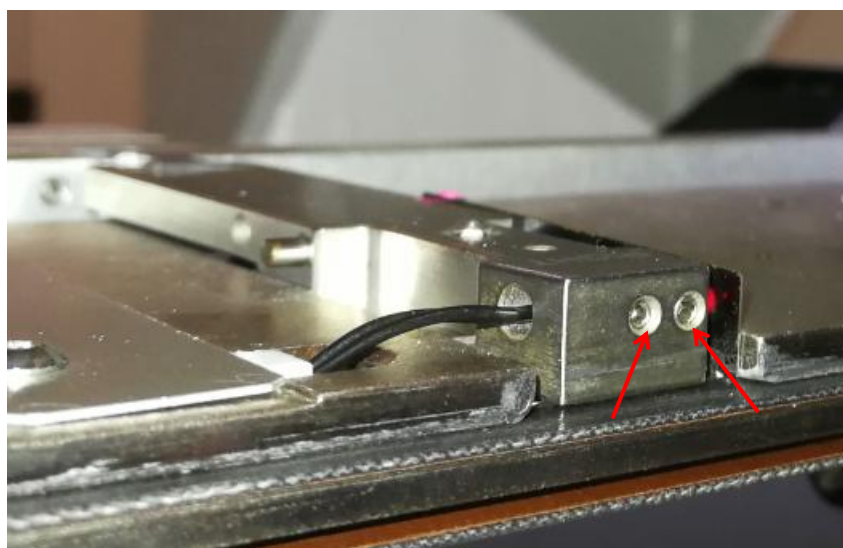

Figure 29 Set Screw Fastening
2. Tighten 2 x Set Screws as shown in Figure 29